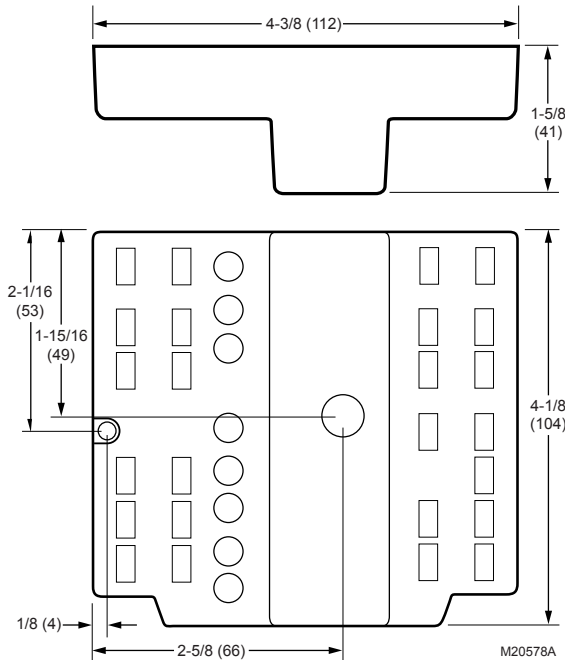
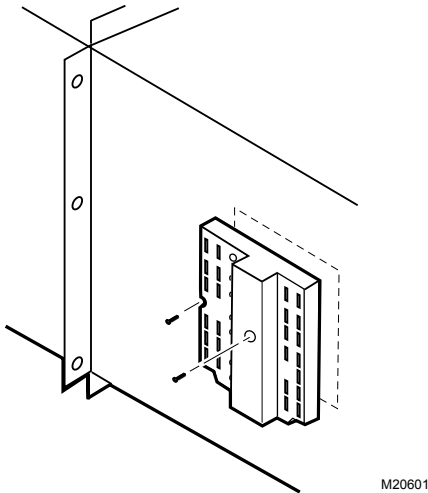

Fig. 1. Logic module dimensions in in. (mm).
Fig. 3. Mounting the module on sheet metal.
**Dimensions:** See Fig. 1.
The logic modules mount on an M7215 or a sheet metal duct or panel. When planning the installation, allow enough clearance for maintenance and service (see Fig. 1 for dimensions). Mount device in a location protected from rain, snow, and direct sunlight. Secure device to sheet metal using the two supplied mounting screws, see Fig. 3.